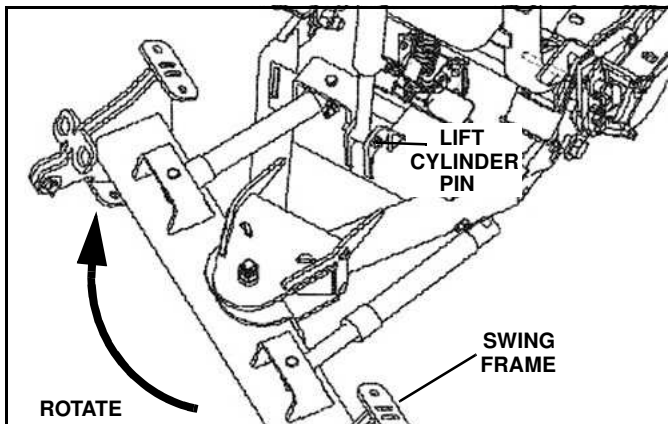

Figure 1-24
- c. Rotate the swing frame to the right as shown. (See Figure 1-24).
- d. Remove the cotter pin securing the lift cylinder lower pin and discard. Remove the lift cylinder pin. (See Figure 1-24).